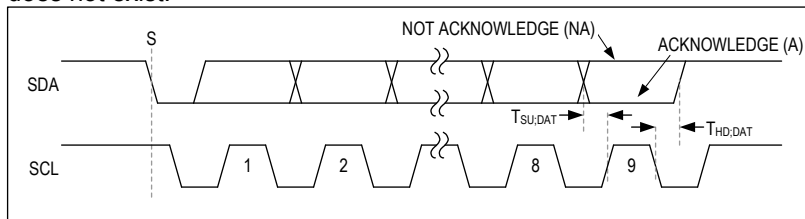

Figure 6. Acknowledge Bit
Both the I2C bus master and the MAX17271/3 (slave) generate acknowledge bits when receiving data. The acknowledge bit is the last bit of each nine bit data packet. To generate an acknowledge (A), the receiving device must pull SDA low before the rising edge of the acknowledge-related clock pulse (ninth pulse) and keep it low during the high period of the clock pulse. See Figure 6. To generate a not-acknowledge (nA), the receiving device allows SDA to be pulled high before the rising edge of the acknowledge-related clock pulse and leaves it high during the high period of the clock pulse.